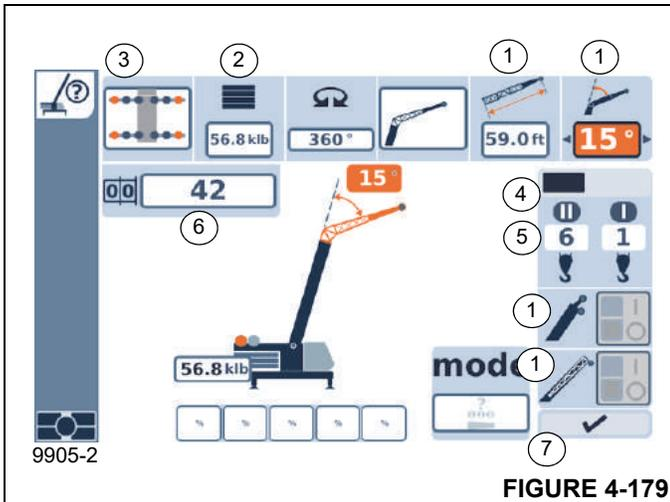

FIGURE 4-179
- Counterweight (2, Figure 4-179)
- Boom system (1)
- Outrigger span (3)